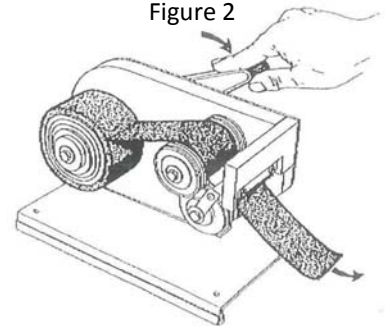

Figure 3
- 4) Locate the Lever on the left side of the machine. Slowly begin pulling down on the Lever as the operator guides the tape around the Knurled Roller under the Pressure Roller and through the opening located at the front of the machine. Please note that the Blade is located at the top of the opening at the front of the machine and be careful not to get cut. See Figure 3